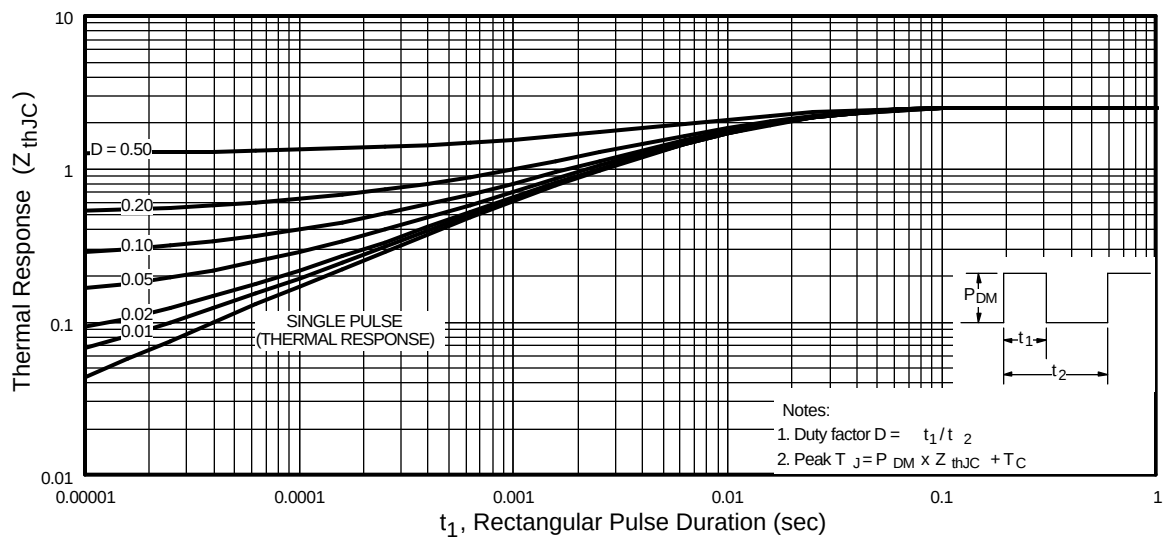

Fig 11. Maximum Effective Transient Thermal Impedance, Junction-to-Case
- ① Repetitive rating; pulse width limited by max. junction temperature. (See fig. 11)
② Starting $T_J = 25^\circ\text{C}$, $L = 57mH$